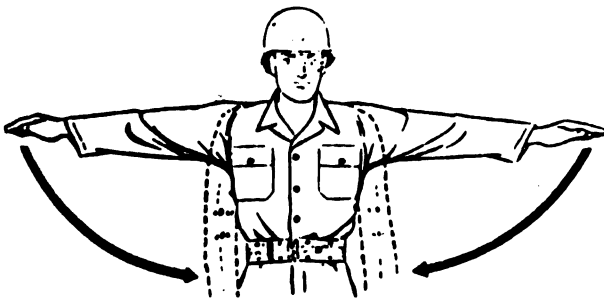

Figure 7. Move downwards.
g. To indicate downwards, extend arms sideways, horizontally, with palms turned down, beckoning downwards by moving arms down to side of body (fig. 7).